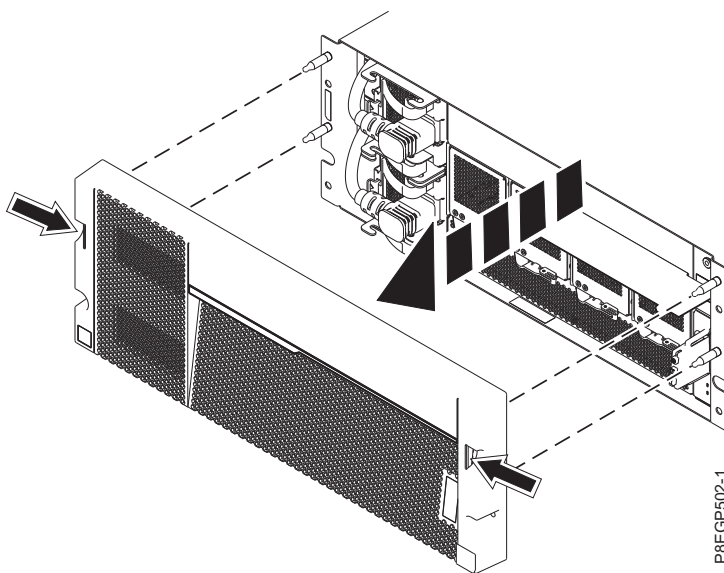

Figure 7. Removing the cover and the service information card
- b. Using the two blue touch points on each side of the drawer, pull the cover straight out to remove the cover from the front of the drawer as shown in Figure 7.